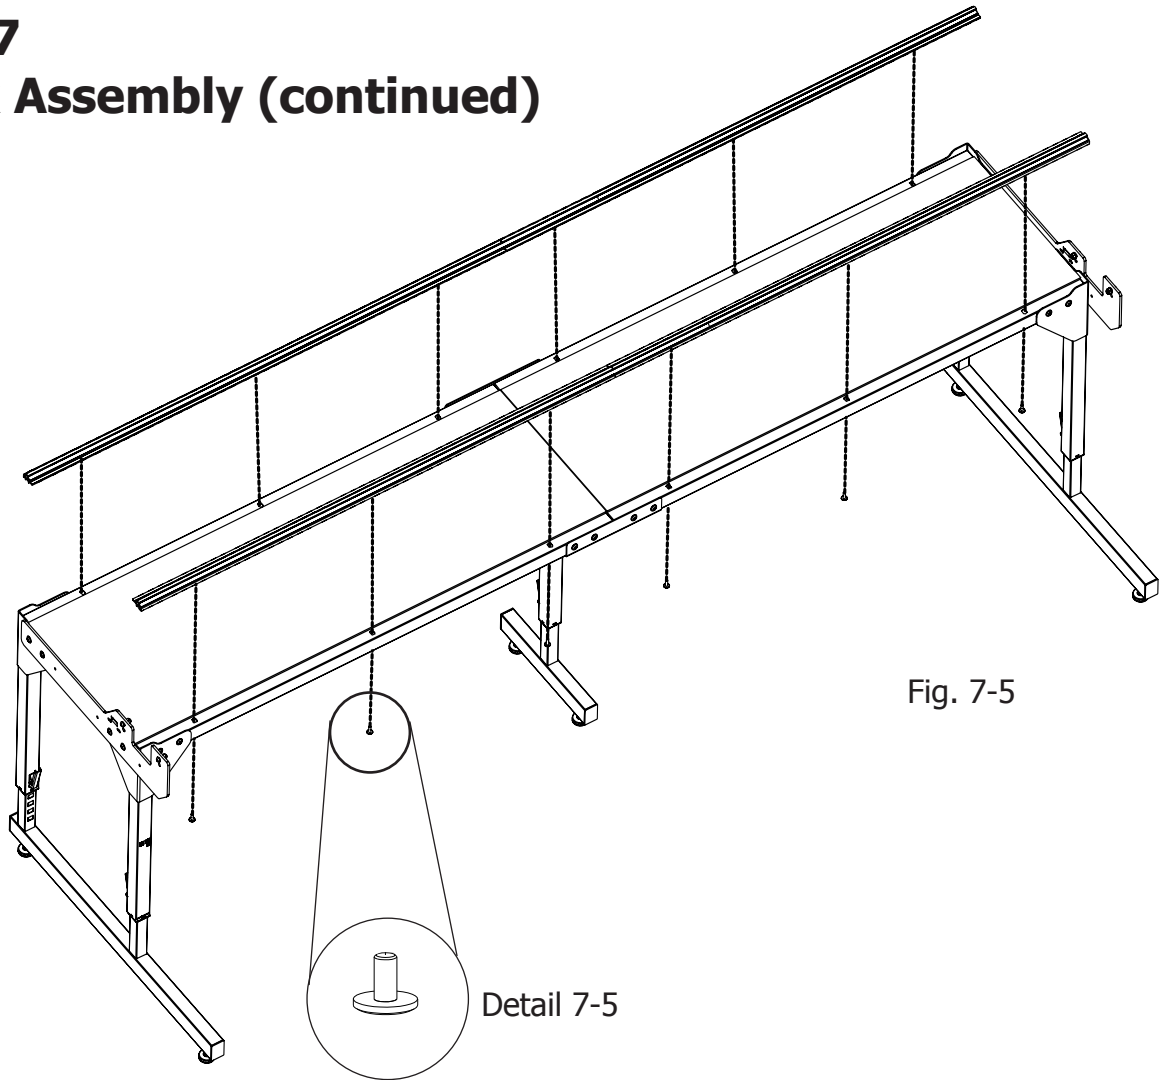

Fig. 7-4
**NOTE:** The extrusions have a wider shoulder on one edge of the track. This shoulder is to be placed toward the inside of the table over the edge of the black plastic tabletop. (Fig. 7-4)